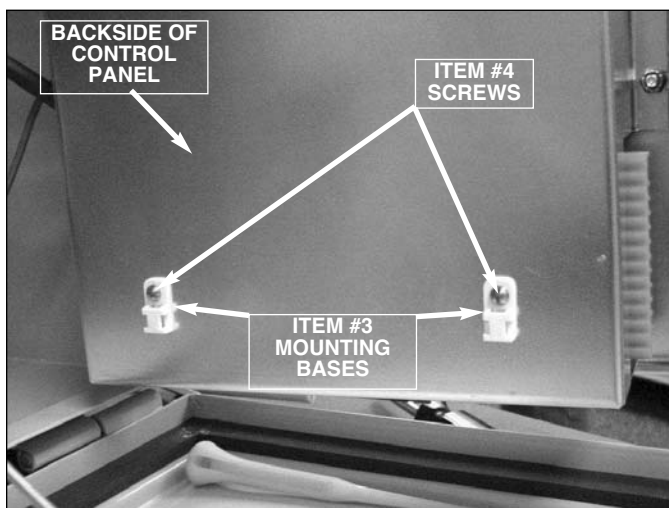

Figure 4.
5. Fasten two Item 3 to the lower back of the CL6 control panel using two Item 4, #6 x .38 Mach screws (See Figure 4). The CL6 control panel has two #6 tapped holes provided.